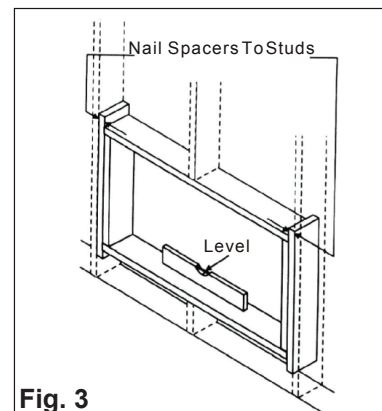

Fig. 3
4. Build wooden frame with the INSIDE dimensions of your model listed above. (Be sure to measure twice for accuracy.) Frame depth should be the same as wall thickness. Fill in the space from the opening to the studs with wood spacers. (See Fig. 3)